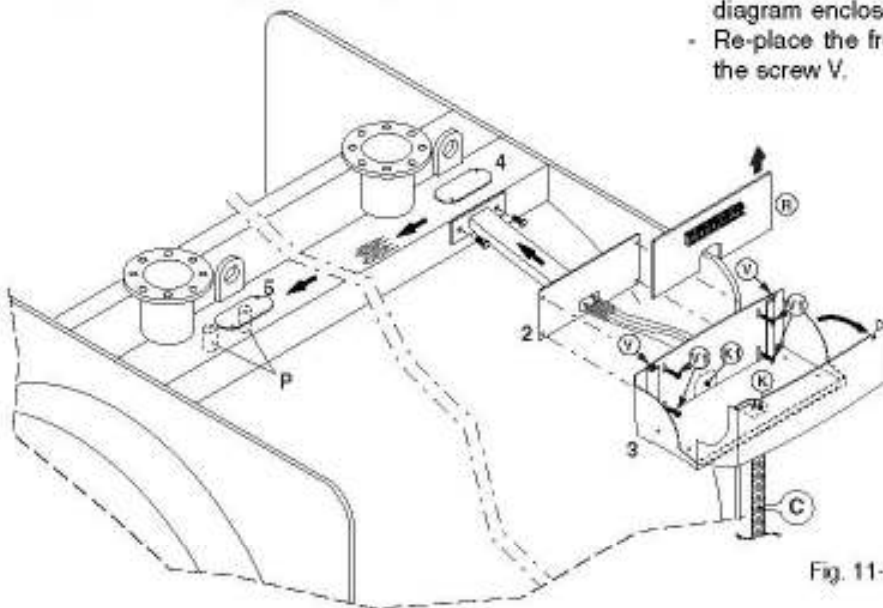

Fig. 11-3
- Fit the electric control panel on panels (3S) and (3D) using screw (V1) (see fig. 11-3).
- loosen the screw V and turn forward the control panel front part 3 (fig. 11-3)
- insert all the bulbs of the thermometer and the thermostats inside the rear pocket of the rod and ensure they slide inside the tube of the support 2 until they emerge (fig. 11-3).
- Remove the plate 4, fit the support 2 to the boiler as indicated in fig. 11-3, paying attention to slide the bulb inside the hole of the boiler towards the plate 5, remove the plate 5 and insert the bulbs inside the pocket P. Once these operations have been carried out re-fit the plates 4 and 5.